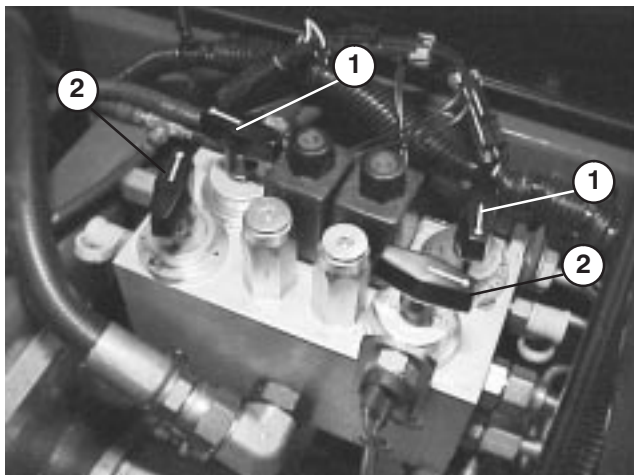

Figure 25
SETTING REEL SPEED (Fig. 25)
- To set reel speed, rotate knobs (Fig. 25) until indicator arrows are in line with the number designating desired setting.